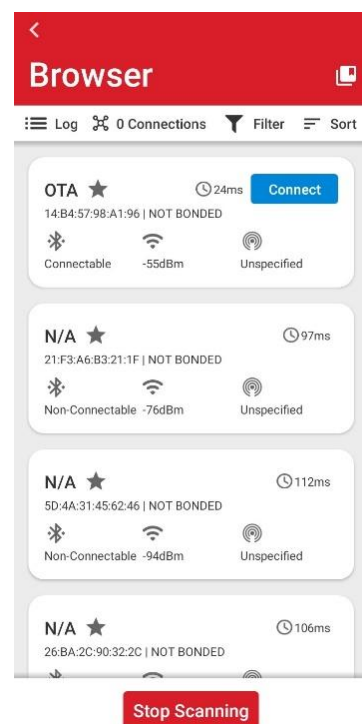

fig. 4.2. «OTA» device
- 5) To connect to the receiver, click «**connect**» (fig. 4.2).